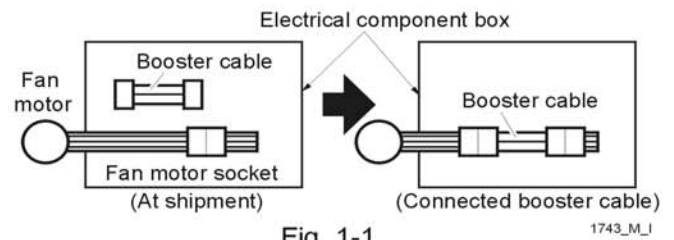

Fig. 1-1
- (1) Remove the screw on the electrical component box and remove the cover plate.
- (2) Disconnect the fan motor sockets in the box.
- (3) Take out the booster cable (sockets at both ends) clamped in the box.
- (4) Securely connect the booster cable sockets between the disconnected fan motor sockets in step 2 as shown in the Fig. 1-1.
- (5) Place the cable neatly in the box and reinstall the cover plate.